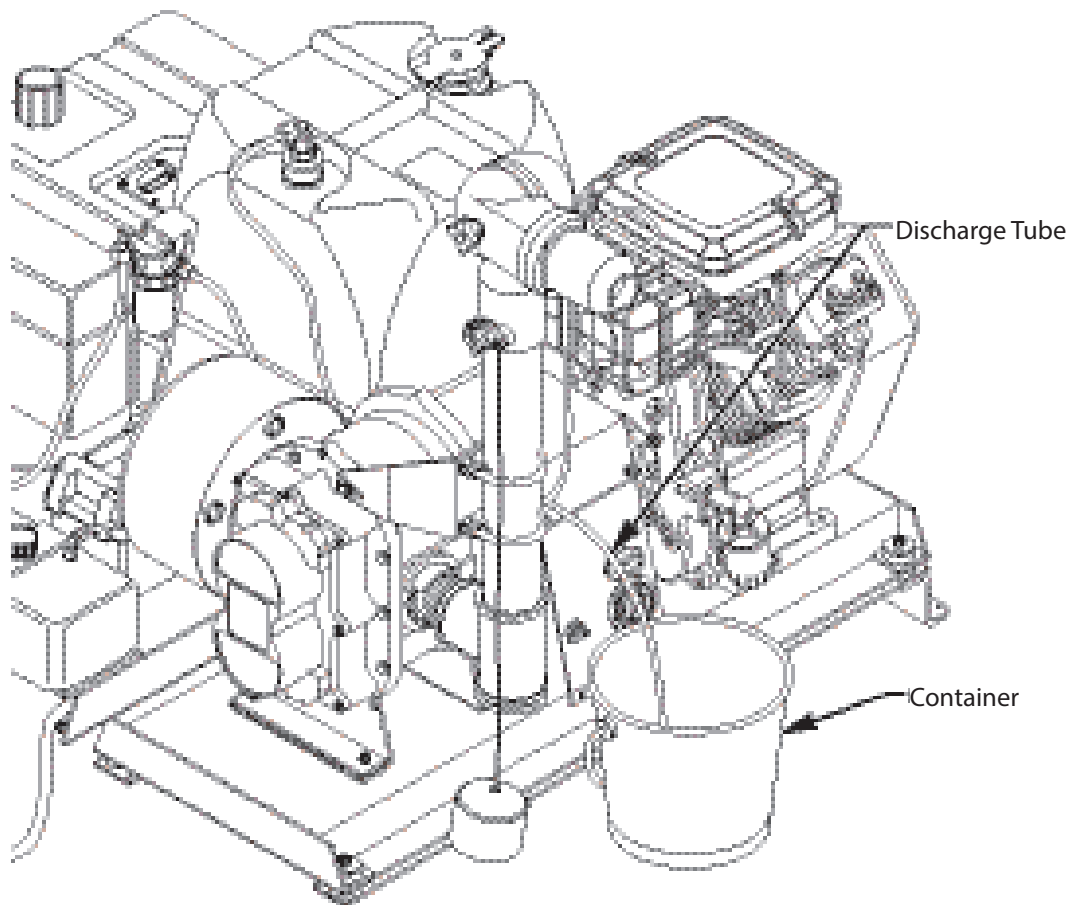

Figure 13 - Discharge Tube
1. Disconnect the insecticide discharge line from the nozzle and place in a suitable container. Do not allow insecticide to be discharged into the nozzle of an idle fog generator. Reference Figure 13 on page 19.